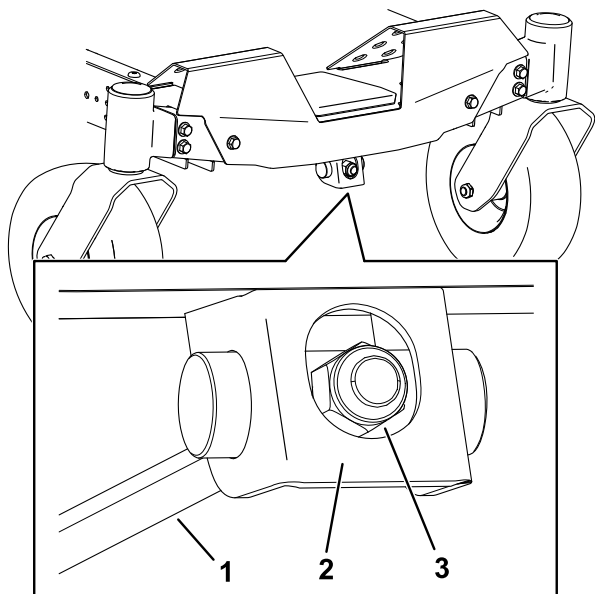

Figure 75
1. Rotate the adjustment nut in the front of the mower (Figure 75).